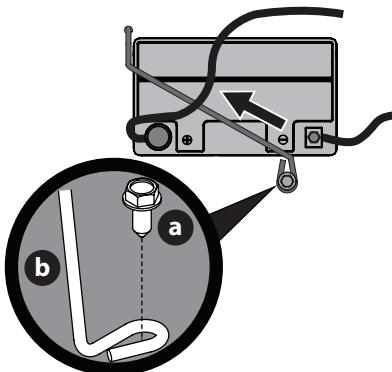

Figure 16
NOTE: Wiring harness should lay on top of battery hold down rod, otherwise damage to the wiring harness may result (Figure 16 on page 13).
3. Remove the hex washer screw (a) securing the battery hold-down rod (b) to the frame. Then flip the battery hold-down rod (b) up to free the battery (Figure 16).